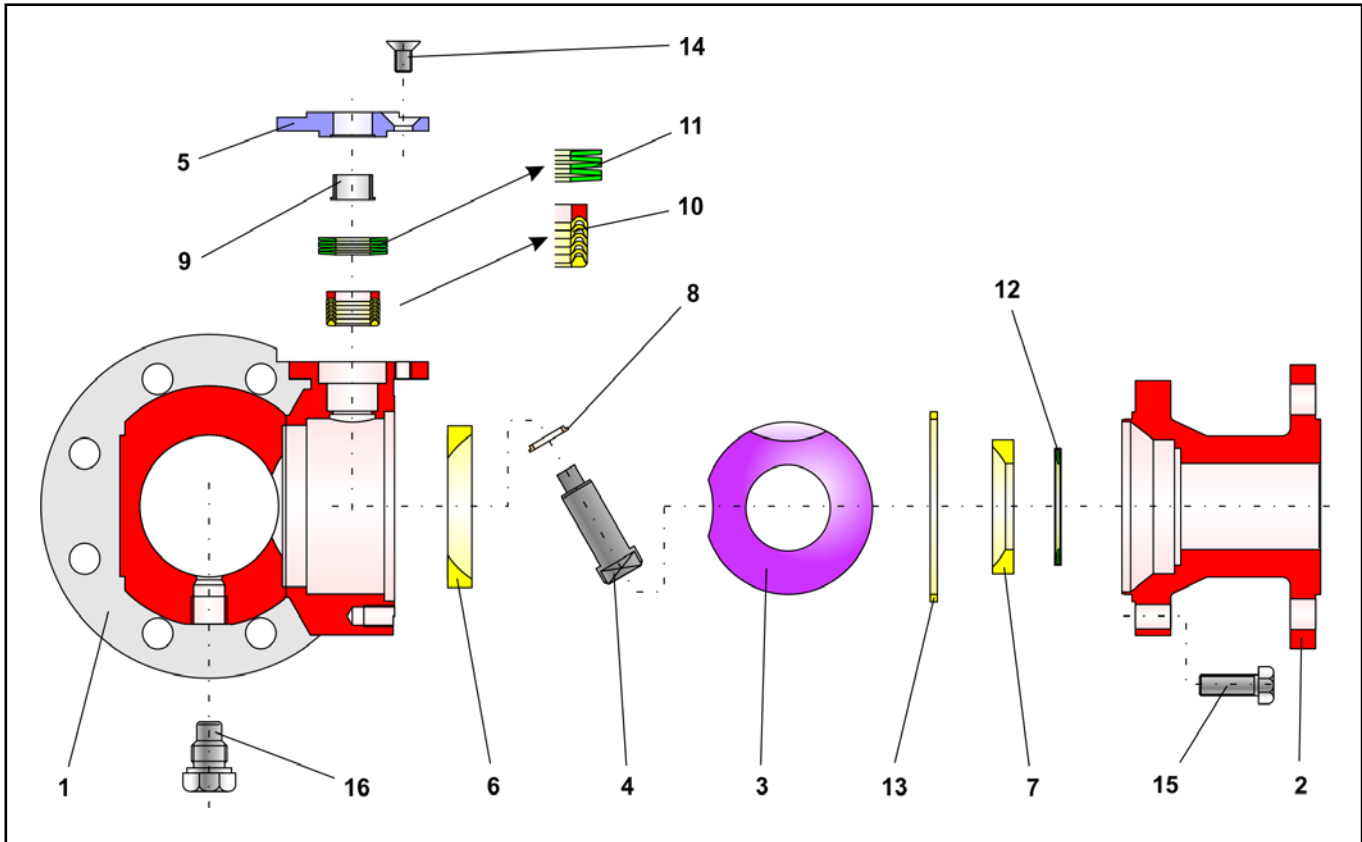

Fig. 3 - Explosion drawing of metering valve, series 28a
Insert the lined spring washer (12) in the body (2). For the assembly position of the spring washer, refer to drawing (Fig. 3)
With a light rotating movement, press the V-ring packing (10) over the control shaft (4) and place in the packing chamber of the main body (1). For the positioning of the V-rings, refer to the explosion drawing (Fig. 3).
Now the spring washer set (11) is placed on the V-ring packing. Also here, refer to the explosion drawing (Fig. 3) for positioning the spring washers.